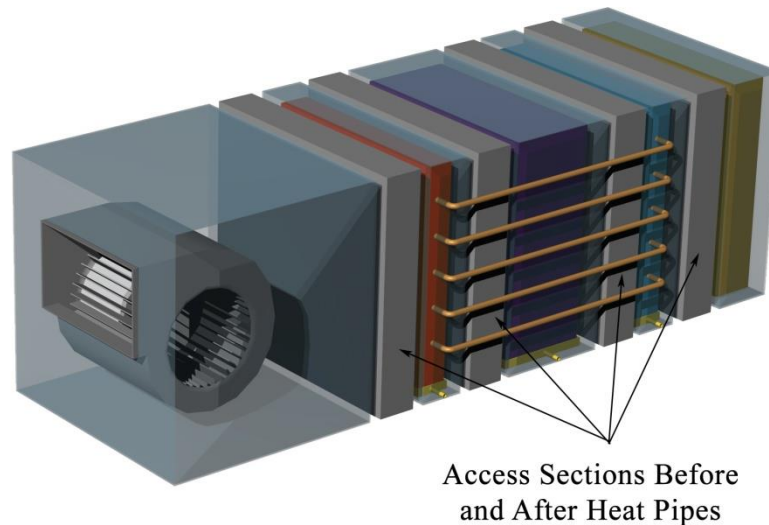

Figure 8
1. The heat pipes should be centered in dedicated spacer/access sections in the modular AHU. While the heat pipes themselves will be less than 12" deep, the section should be a minimum of 20" deep to allow for maintenance and controls. If a separate access section is to be added both upstream and downstream of all coil sections including the heat pipes, then the spacer/access sections only need to be 12" deep as shown in FIGURE 8.